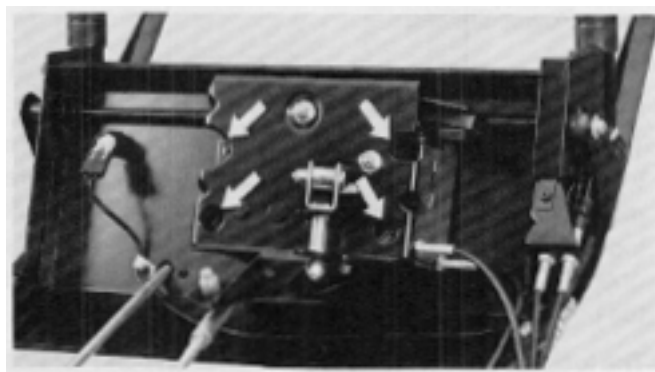

Figure 24
4. Using a 1/2" deep well socket, remove the four nylon locknuts securing the power shift control box to the control panel. See Figure 24.